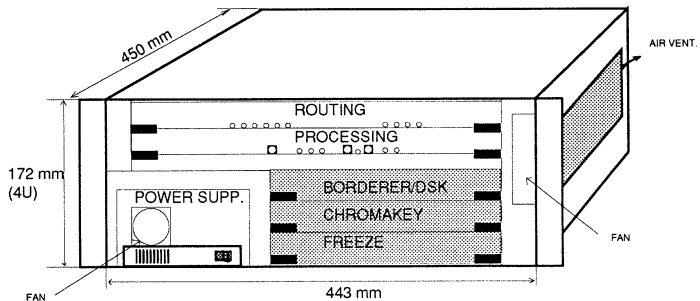

Fig. 12: Card locations
- Insert the card in the chassis (see fig.12 below).